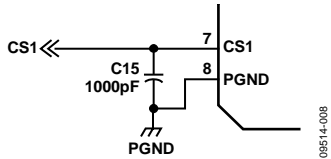

Figure 8. CS1 Filtering Capacitor Placed Close to the Pins of the IC
The CS1 pin (referenced to PGND), which monitors the primary current, has a fast and accurate form of protection. An internal comparator provides fast overcurrent protection (OCP), and this analog signal must be routed away from the MOSFET drivers or PWMs that have high frequency pulses. A 1 nF capacitor is recommended to be placed between the CS1 pin and PGND, as shown in Figure 8. The primary current is sensed by converting it into a voltage across a termination resistor on the secondary side of the current transformer (CT). The trace from the CT secondary to the CS1 pin is long due to the placement of the IC. Placing the termination resistor close to the CT automatically degrades the voltage across the trace (but the loop area is shorter and inductive noise is suppressed). A damping resistor of much higher value can be placed across the secondary side of the CT to shorten the loop, and the termination resistor can be placed as close to the CS1 pin as possible. There is no signal degradation due to the signal being a current signal.